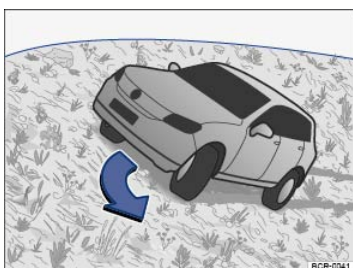

Fig. 124 Steer downhill along the fall line.
- If the vehicle threatens to tip, immediately steer downhill into the fall line and gently accelerate ⇒ Fig. 124. If it is not possible to steer down the fall line, steer uphill and gently accelerate.
- Before driving crosswise on a hill, check whether it is possible to steer into the fall line along the selected route. If this is not possible, select a different route. If the vehicle threatens to tip, immediately steer downhill into the fall line and gently accelerate ⇒ Fig. 124.